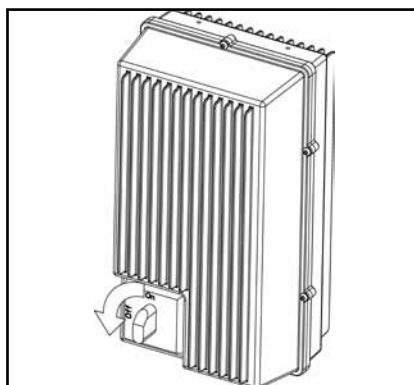

Fig. 11
2. Interrupt the master switch. (Fig.11)